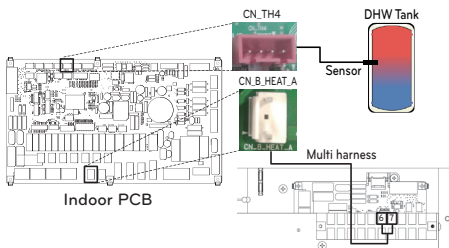

Fig. 1
Step 2. Connect Harness (Violet) of Main PCB assembly (TB1 (6/7)) to 'CN_B_Heat_A' of the Main PCB like following fig. 1.
Step 4. Connect power supply to the DHW tank kit as shown fig. 1.